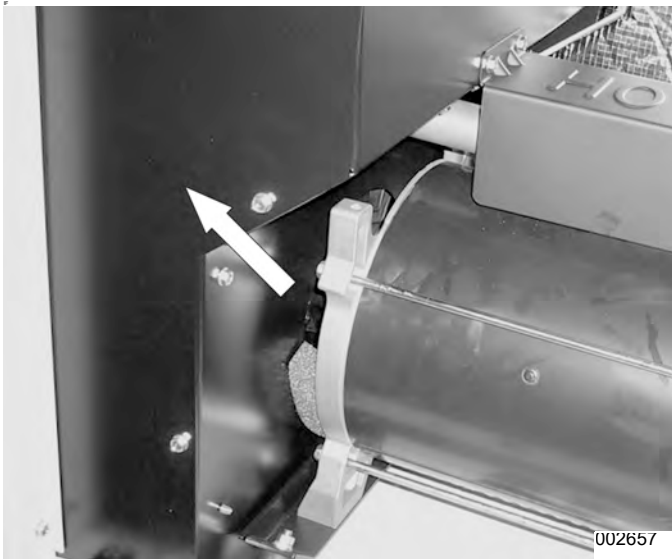

Figure 5-40.
2. **Remove Side Exhaust Enclosure Cover:** See Figure 5-40. Use a 10 mm socket to remove the five bolts from the exhaust side cover. Remove side covers.